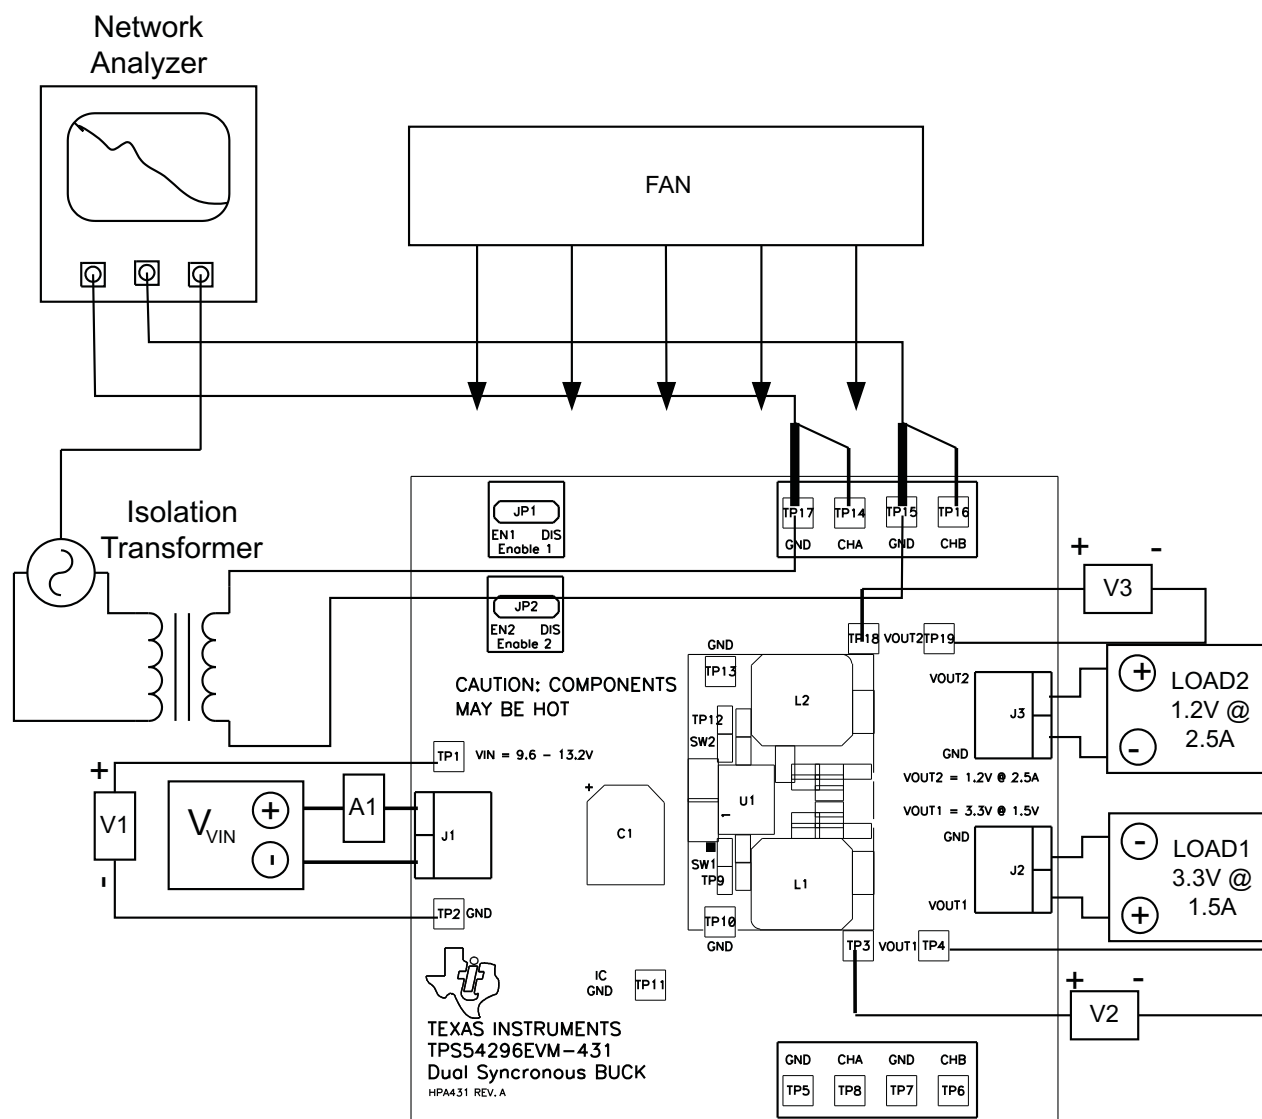

Figure 4. Control Loop Measurement Setup
1. Connect 1kHz–1MHz Isolation Transformer to TP6 and TP8 as show in Figure 4
2. Connect Input Signal Amplitude Measurement Probe (Channel A) to TP8 as shown in Figure 4
3. Connect Output Signal Amplitude Measurement Probe (Channel B) to TP6 as shown in Figure 4
4. Connect Ground Lead of Channel A and Channel B to TP5 and TP7 as shown in Figure 4